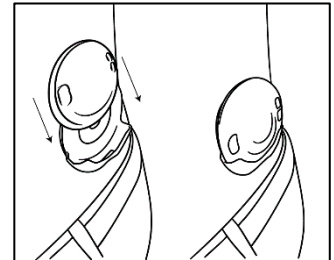

Figure 8 Load Therapy Disc
1. Slide the Therapy Disc into the open side of the clip until it clicks into place. Ensure that the buttons are facing away from your skin, as shown in Figure 8.